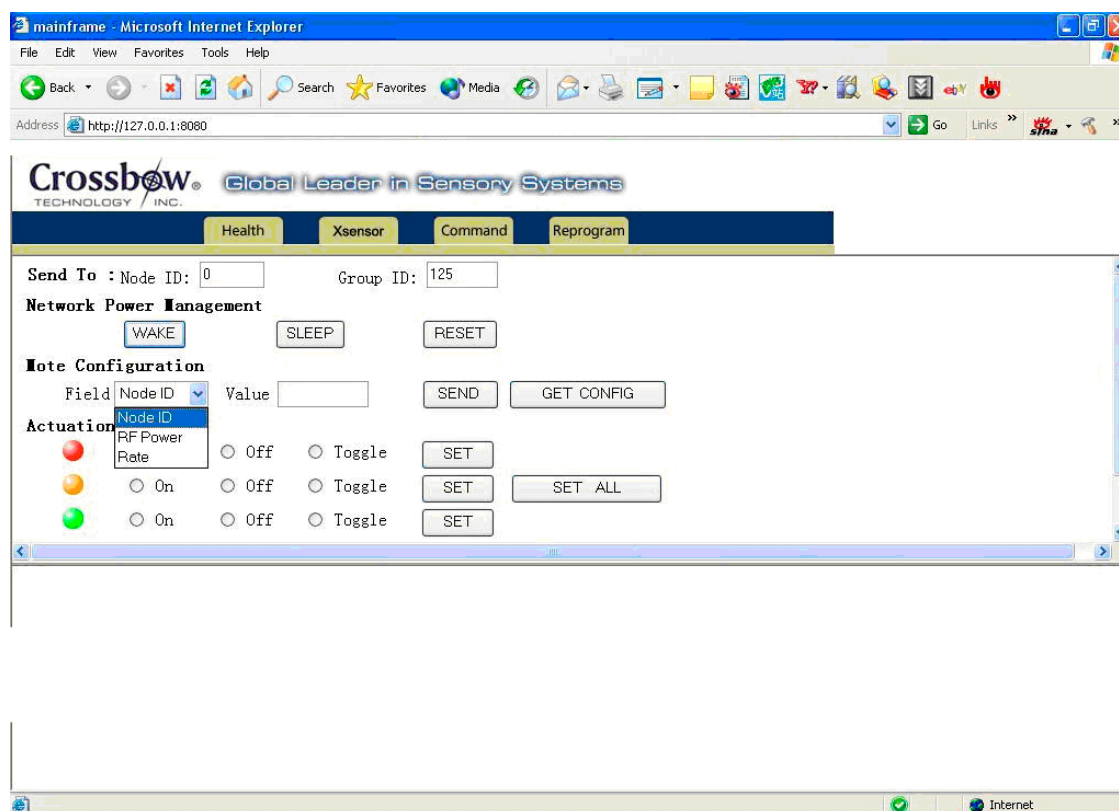

Figure 5-3. Screenshot of Command Web Interface
3. **Command:** The web interface provides the function to send commands to XServe. There are three types of commands that are available: Power Management, Mote Configuration and Actuation. An example web page is shown in Figure 5-3.